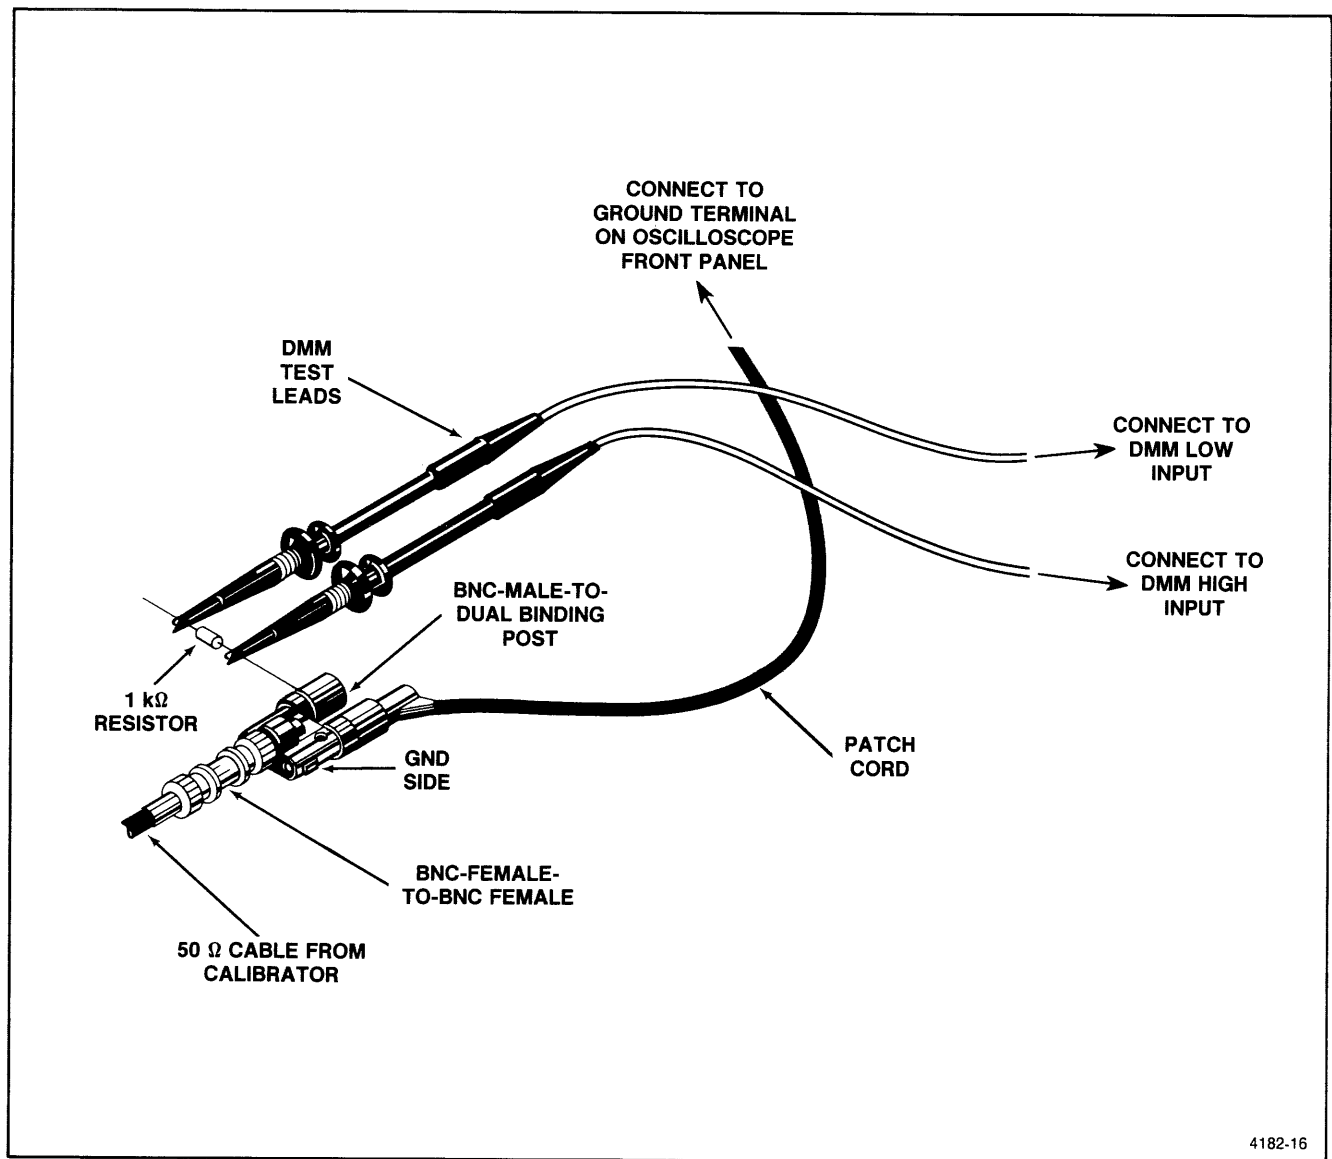

Figure 4-1. Test setup for DMM common mode check.
f. Connect the test setup as shown in Figure 4-1.